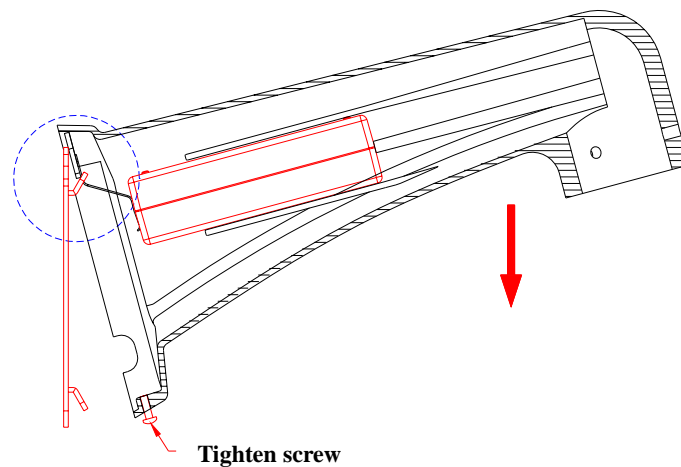

Fig 4.5-3
Step 3. Pull the power cable, video cable and controlling cable out of the bracket tube, and direct the dotted-line part shown in the figure to the corresponding pegs on the installed peg-board, then push the bracket downward until it locks in place. After this, direct the screw on the bracket to one corresponding bore on the lower part of the peg-board and tighten the screw. **(Refer to Fig 4.5-3)**